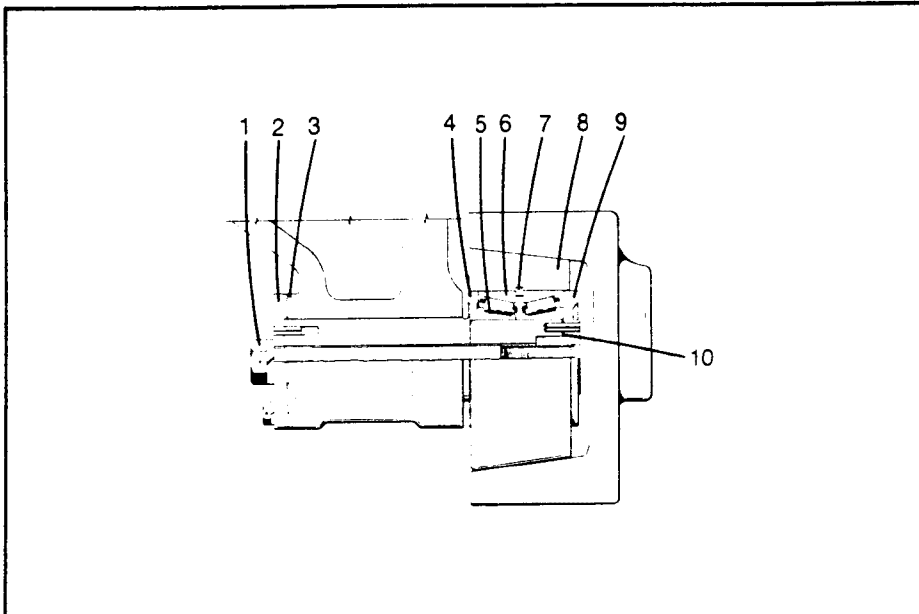

Fig. 1
- Install sling assemblies on the machine. See Fig. 1, and steps a, b, c, under undecking procedure.